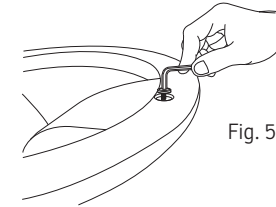

Fig. 5.
Use hex key (M) to tighten screw M6 (L) to lock between ottoman ring (I) and ottoman up-right (G) as shown in fig. 5.